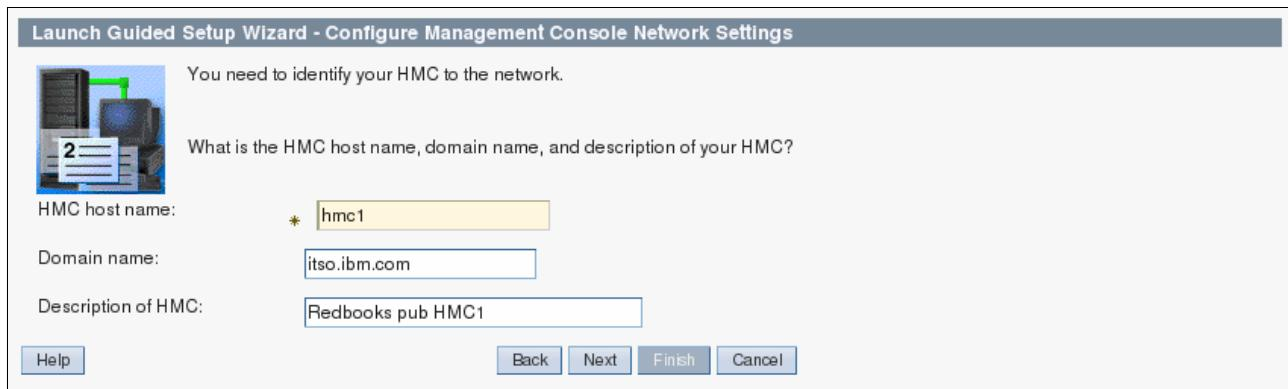

Figure 3-99 Set the HMC host name
28. Set the name for this HMC (Figure 3-99). A preferred approach is to specify a domain name and a description, and then click **Next** to proceed.